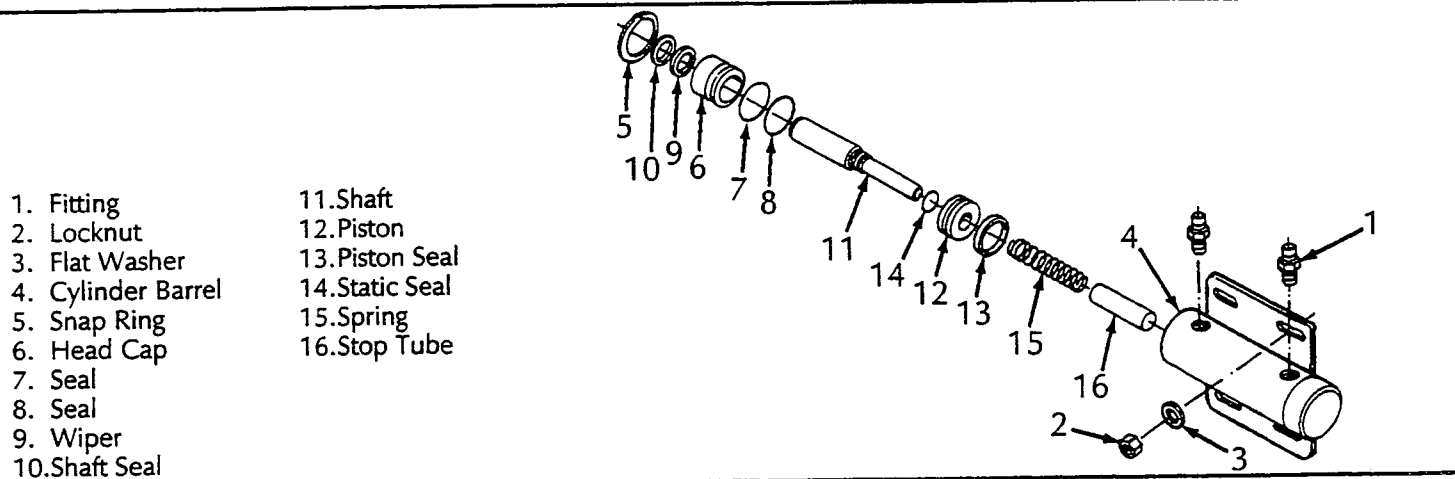

Figure 4-13: Brake Cylinder
4.11 Brake Cylinder (Figure 4-13)